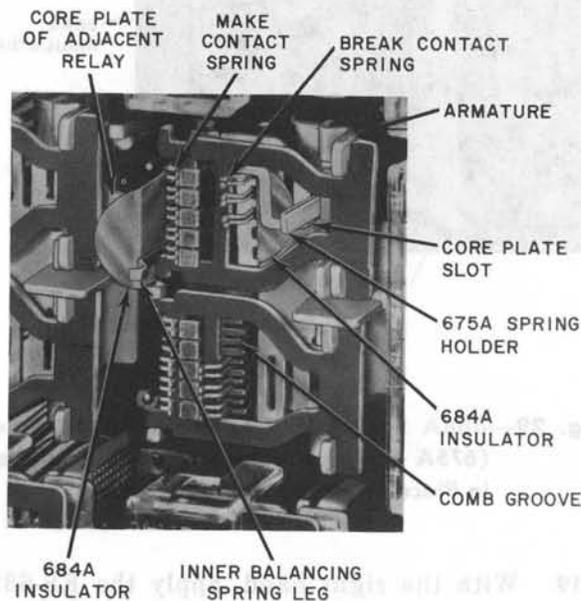

Fig. 27—684A Insulators and 675A Spring Holder Mounted on Upper Half of Relay
4.13 If the relay has break contact springs, these springs must be moved out of their comb grooves during replacement of the card. In order to prevent shorting of the break contact springs against the contact cover spring or the core plate, insert the 684A insulator in the relay as follows: Hold the insulator with the offset end to the right and insert the other end between the comb and core plate so the insulator passes to the left of the contact cover spring. Push the insulator inward until the beginning of the offset touches the core plate as shown in Fig. 27. Moving the insulator laterally, while inserting it, may facilitate positioning it in the relay. Make sure that the insulator is positioned so it will insulate all the break contact springs.
AM-type relay mounted at its left as shown in Fig. 27, it is necessary to prevent shorting of the make contact springs against the core plate of the adjacent relay when these springs are held out of the comb grooves for replacement of the card. To prevent shorting of the make contact springs, position the 684A insulator adjacent to these springs as follows. Using a KS-6320 orange stick, move the disengaged inner balancing spring leg to the right. Hold the insulator with the offset end to the left and insert the other end between the inner balancing spring leg and the core plate of the other relay. Release the spring leg so it holds the insulator against the core plate. With the KS-8511 tweezers, position the insulator so the beginning of the offset is against the core plate as shown in Fig. 27 and so the insulator will insulate all make contact springs from the core plate. If the relay is mounted adjacent to other apparatus against which the make contact springs may be shorted, insert a 684A insulator between the adjacent apparatus and one or both of the disengaged balancing spring legs as necessary.
4.15 The 675A and 675B spring holders are used to hold break contact springs of the upper and lower halves of the relay, respectively, during replacement of the associated card. Each of the spring holders has five notches to engage the five pairs of break contact springs with which it may be used. It is important that the pairs of springs are engaged by the proper notches in the holders. Special care is required to engage the pairs of springs in the proper notches if all five positions on the relay are not equipped with these springs. The 675A spring holder is shown mounted on the relay in Fig. 27. To mount either the 675A or 675B spring holder, proceed as covered in 4.16.
4.16 With the right hand, apply the KS-6320 orange stick to the right inner edge of the card and move the card as far to the right as possible. Holding the handle of the spring holder in the left hand, insert the notched section of the holder behind the break contacts. Release the card. Swing the handle of the spring holder to the right and position the holder so each pair of break contact springs is engaged by the proper notch and the inner end of the handle is clipped in the core plate slot directly in front of the armature as shown in Fig. 27. Make sure that the notched section of the holder is against the comb and that the inner end of the handle does not prevent free movement